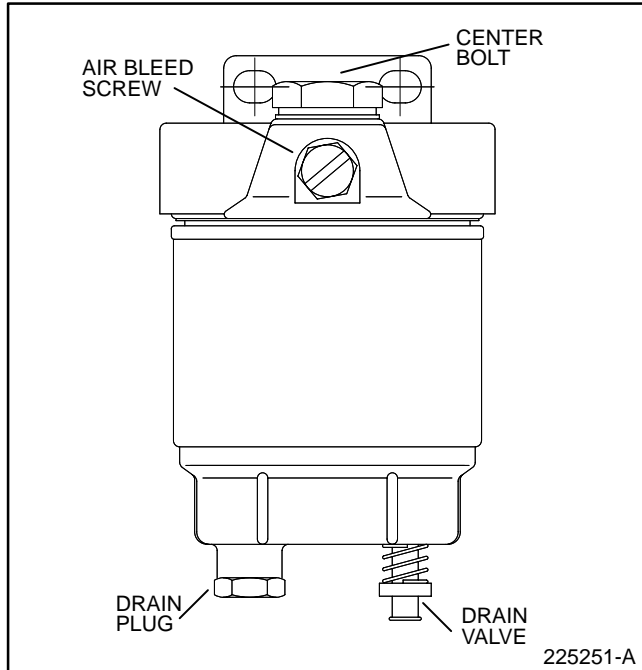

Figure 2. Draining and Changing Water Filter
11. Remove air bleed screw from fuel/water separator. See Figure 2.
At the specified interval (consult generator service manual), drain water from fuel/water separator. Hold a suitable container beneath the fuel/water separator and push up on the drain valve (see Figure 2). Release valve when fuel (free of water) flows from fuel/water separator.